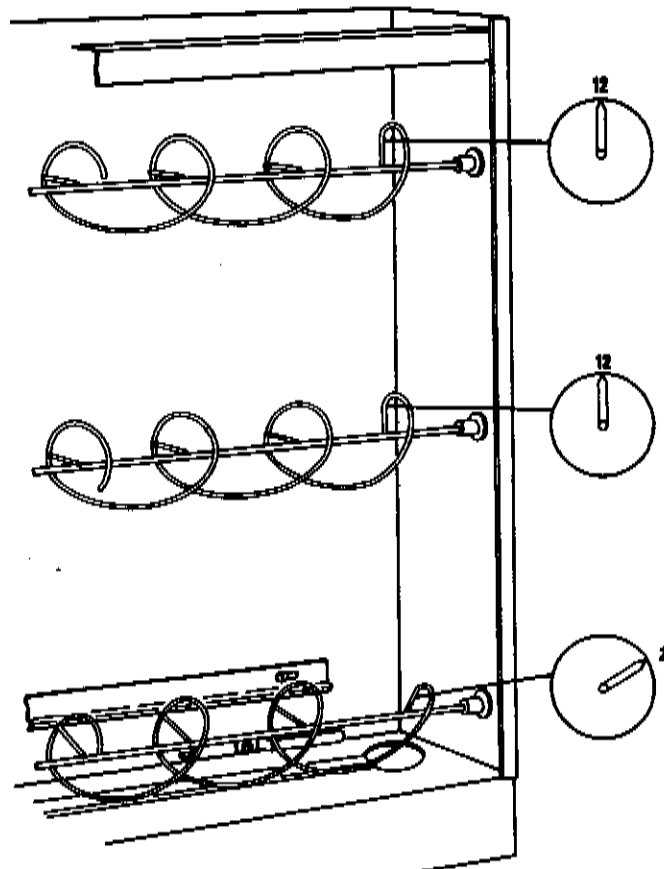

Figure 13 (Spiral adjustment)
The spirals are so designed that a stack of standard vending cups will nestle between the turns. It is important that the spirals are properly oriented with each other so that the stacks of cups will advance in a vertical position. Figure 13 of this section illustrates the relationship between the three spirals. When the spirals are properly adjusted the return wire at the end of the spirals will point as shown. When the upper two (which should be adjusted to the same position) point to 12 o'clock the lower spiral should be advanced to a 2 o'clock position. This is done because the lower end of a cup stack is smaller in diameter than at the top rims, where the spiral touches it. The spirals are properly set before the 465 Freeze Dry leaves the factory and should not have to be adjusted before putting the machine into service. If they are not properly set, see the "Adjustment" heading of this section.
4. Remove the nut (B) from the right hand end of the magazine support angle.
7. Remove the nyliners (C) from the holes in which the spiral shafts had been and relocate them in the forward set of holes.
8. Rotate the bearing plate (D) so that the screw holes for mounting are lined up to the left of the shaft, as you view it from that end. This must be done for both the top and center spirals.
11. Turn the bottom spiral until the wire on the right hand end points to 2 o'clock as previously described. (Figure 13).
12. Position the wire on the right hand end of the center spiral at 12 o'clock. (Figure 13)
15. Follow a similar belt tightening procedure for the top spiral as was performed on the center spiral. Be sure that the center and upper spirals both point in the direction of 12 o'clock while the bottom spiral points to 2 o'clock (refer to Figure 13).